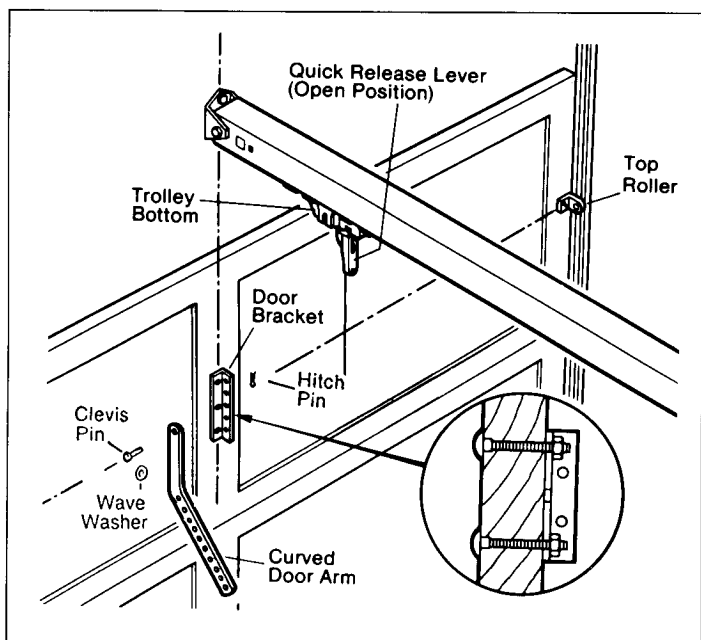

Figure 19
Step 37: Mount door bracket on door in position shown in Figure 19. The flat side of the bracket (which has the least number of holes) should be mounted vertically on the door.
The right-angled portion of the bracket (which contains the door-arm adjustment holes) should be mounted at the center line of the door with the outward facing angle to the right (see Figure 19). Note that the middle of the mounting bracket should be in line with the top rollers at the sides of the door.